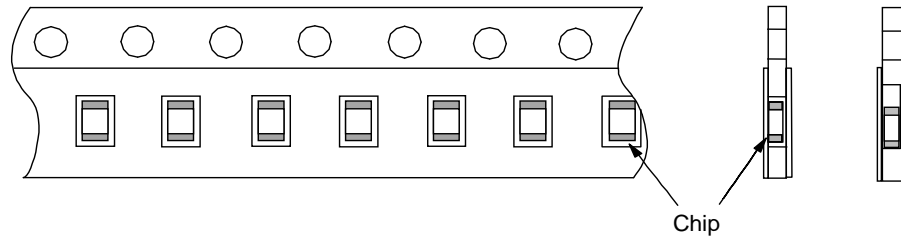

Fig.2 Dimensions of Reel
2.11 Reel is made by resin and appeaser and dimension is shown in Fig 2.